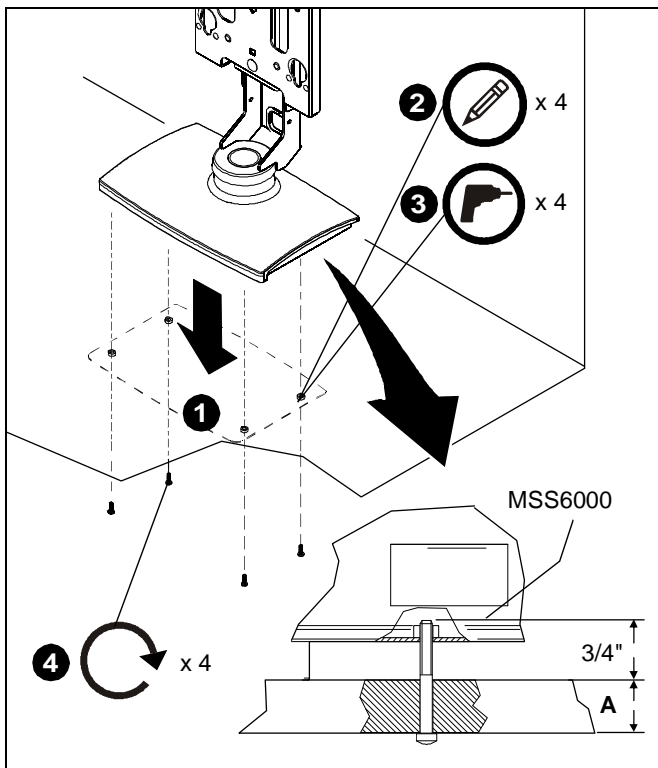

Figure 5
2. Measure the hole locations on bottom of MSS6000 and mark the four mounting hole locations on mounting surface. (See Figure 5)
4. Secure mount to mounting surface using four 1/4-20 cap screws (not provided) with a length equal to the thickness of the mounting surface **A** plus 3/4". (See Figure 5)